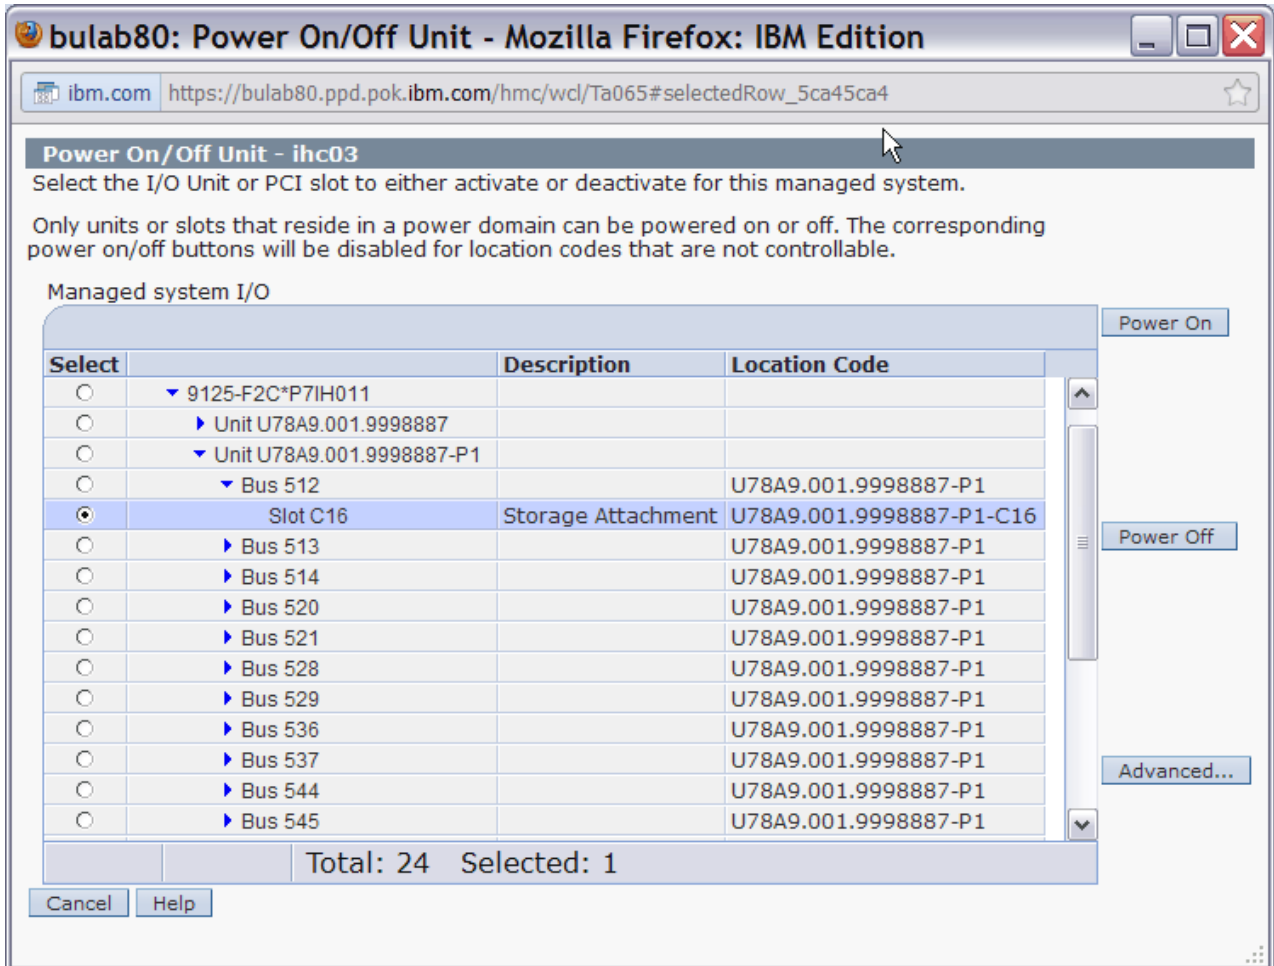
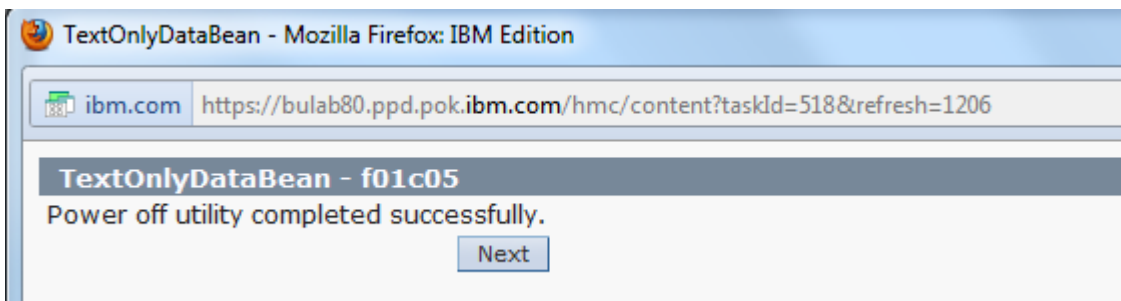

Figure 13 UNVSA Location Power Off/On
Figure 14 UNVSA Power Off Complete
STEP 29 Power Off the UNVSA as identified in STEP 10. *Click* the CEC Drawer triangle (to expand and see busses), *click* the bus that corresponds to the UNVSA requiring service (triangle to expand), *select* the slot number that requires service, and *click* on the Power Off button. In the example in Figure 13, we show service of location code C16. C16 can be found under Bus 512; for Power Off of the C14 location code you can find this under Bus 520. See Figure 13 for example of selecting C16 location.
STEP 30 Use HMC menu's to power off slot. The HMC will go through several windows before the slot is powered off. If all conditions are met and the slot is powered off, a screen like Figure 14 is displayed. *Click* the **Next** button to get back to the Power On/Off Unit screen (Figure 13).
STEP 33 Return to the HMC screen for Power On/Off Unit. Power On the UNVSA as identified in STEP 10. Select the slot that was powered off in STEP 29 and *click* the **Power On** button. See Figure 13.